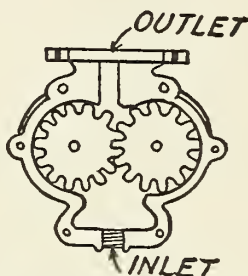

FIG. 54.—A gear oil pump.
It works on the same principle as a water wheel with buckets on its rim, the oil being carried up by the teeth of the gears which run outward from the oil inlet as shown in Fig. 54.
Positive, or Force Feed Pumps.—There are two kinds of these pumps in general use and these are (1) the *gear, or tooth wheel pump*, and (2) the *rotary pump*. The first is made exactly like the oil pump shown in Fig. 54.